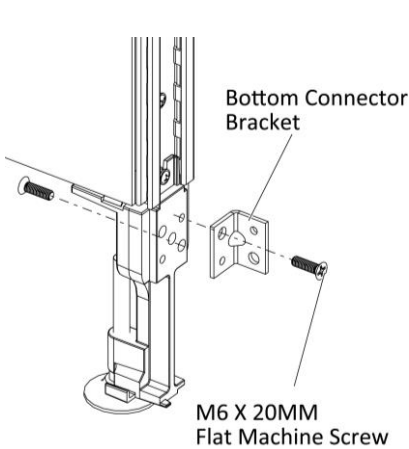

Figure 2
- 3. Securely fasten the bottom corner bracket to the panel leg with two M6 X 16MM Flat Machine Screws, (Figure 2).